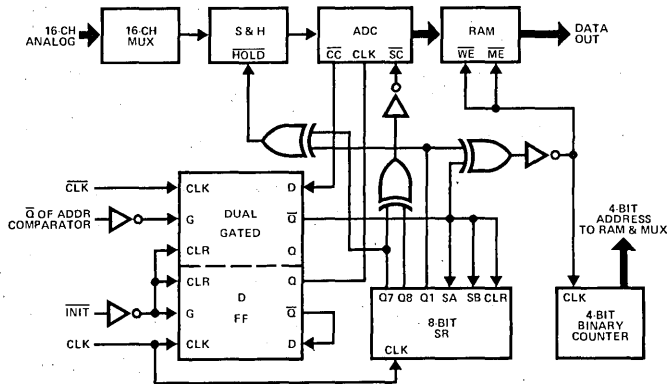
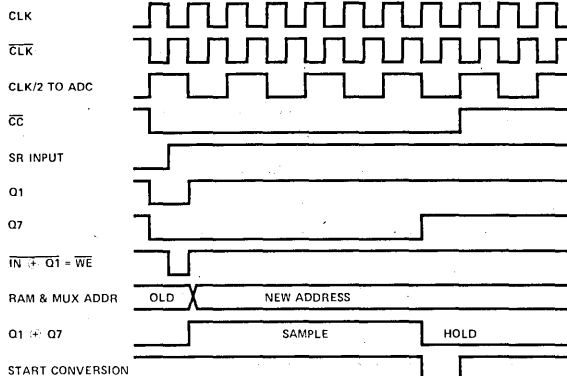

FIGURE 15. Sequencing Logic with S-R
FIGURE 16. Timing for S-R Sequencing
An alternate sequencing circuit without one-shot circuits is shown in Figure 15 with timing relationships in Figure 16. It makes use of a shift register and exclusive-OR gates to generate the gates needed to write into memory, sample and hold, and start conversion. The ADC clock is generated at twice the desired clock frequency and divided by 2 in a D flip-flop. In this manner, the minimum gate width is 1/4 of the ADC clock period (620ns in this example). The \overline{CC} signal is clocked into a D flip-flop with a delay of 620ns. The delayed output clears the shift register (SR) and is clocked into the SR after an additional 620ns delay. An exclusive-OR of the SR input and Q1 output generates a 620ns gate to write data into the RAMs. The trailing edge of this \overline{WE} gate clocks the $\div 16$ counter to advance the MUX and RAM address to the next channel. Exclusive-ORing of SR Q1 and Q7 produces an 8.75 μ s sample gate. (If the acquisition and settling time of the S&H is greater than 8.75 μ s, additional circuit complexity is required.) Exclusive-ORing of Q7 and Q8 produces a synchronized 1.25 μ s gate to start the ADC. This circuit may not be the most versatile or elegant for the purpose. For those applications with longer S&H acquisition times or other requirements, some alternate circuit may be designed if that of Figure 15 is unacceptable.